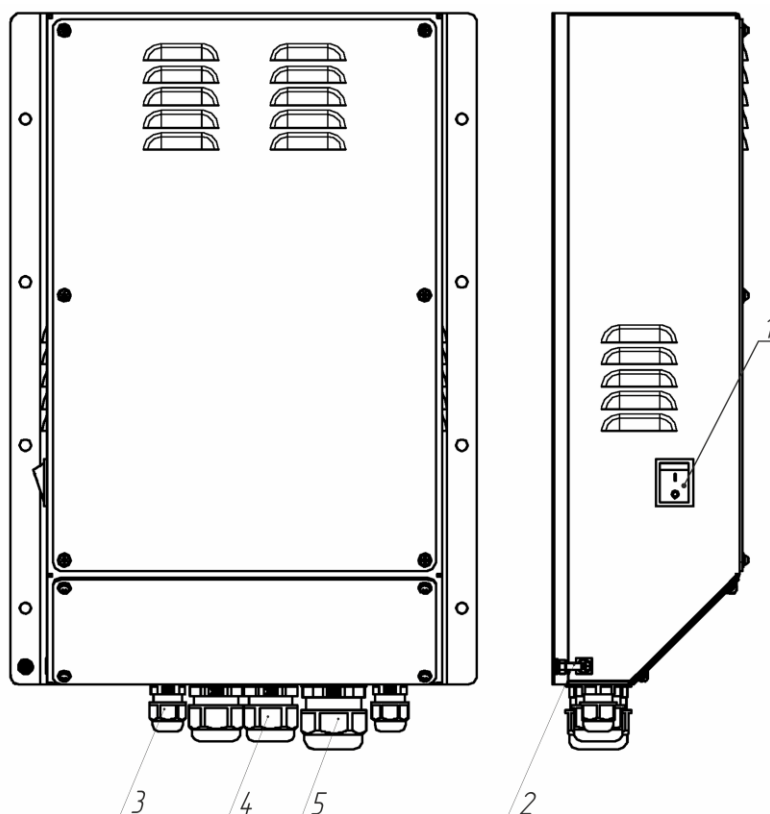

Figure 1 – The PS-203-60
1.3.1 The Product is manufactured in metal casing, which has a mounting to vertical bulkhead. A piano type on/off switch with a main power LED (green) is located on the casing side. The LED operates when the switch is turned to power On position, see Figure 1.
Note – See positions (№) in Figure 1.